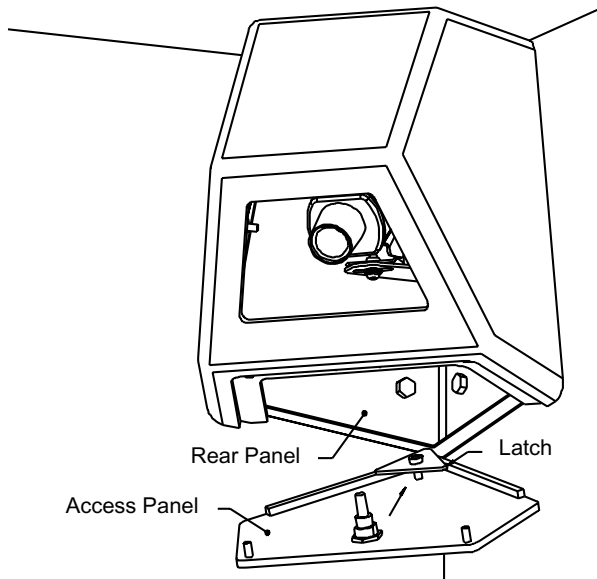

Figure 15: Inserting the Access Panel
4. **HS9303L:** Attach the access panel to the housing by inserting the latch into the rear panel. Screw the lock down tight to the cover. If the rear of the access panel is not tight remove access panel and lower the latch by rotating it clockwise. Repeat until tight. **See Figures 15 and 16.**